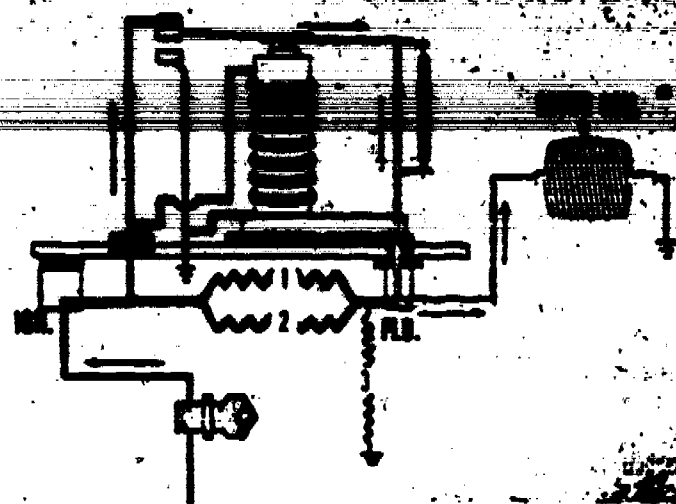

Figure 137. Voltage Regulator Circuits - Upper Contacts Closed.
MOVEABLE CONTACT CLOSED AGAINST UPPER CONTACT POINT. Figure 137 illustrates current flowing from the ignition terminal of the regulator, through the upper stationary point, through the moveable point, continuing through the rotor field coil and then to ground. Since resistance in this circuit is low, maximum current will flow through the rotor field coil. Rotor field strength will be high. Alternator output will be at its maximum for any given rotor speed. Current flow through resistors (1) and (2), as well as number (3), is negligible when the field circuit through the upper contacts is completed.